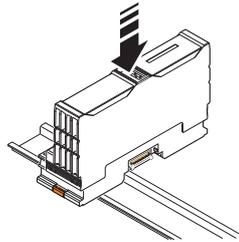

Fig. 6-8 Snapping the bus coupler on
- Place the bus coupler **vertically** on the DIN rail until it snaps into place with a click (Fig. 6-8).